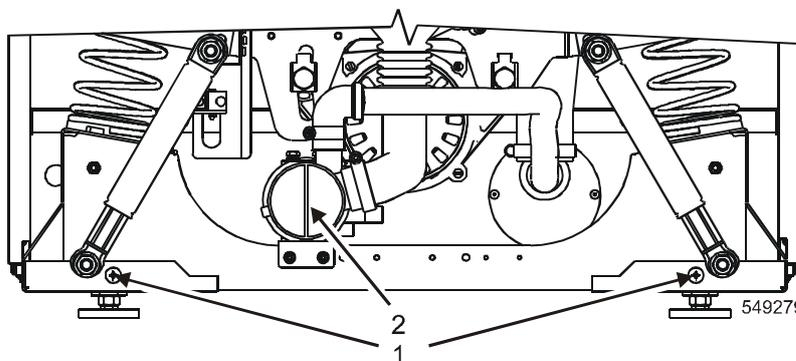

Figure 32
- If your machine is fitted with a drain pump, make sure that the pump provides normal flow rate during draining. The drain pump can be cleaned only when it becomes clogged/choked with foreign bodies such as buttons, hairpins etc. Before the cleaning procedure, drain all the water from the machine. Then disconnect the machine from the power supply by removing the plug from the socket. Remove the front panel of the cabinet by unlocking the 2 bolts, figure 32, pos.1.